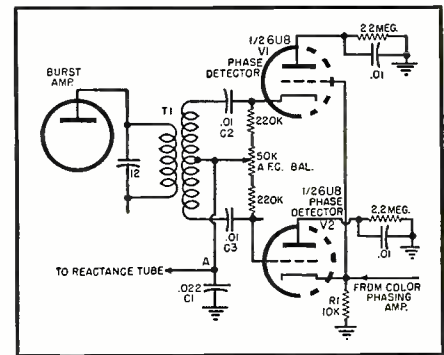

Fig. 3. Phase detector circuit of the color sync section of the set of Fig. 4.
Fig. 5. Various voltage vector relationships in the phase detector circuit. (A) The incoming burst voltage applied to  $V_1$  and  $V_2$ . (B) The combination of the burst voltage and color phasing voltage. (C) When the phasing voltage,  $E_o$ , lags (left) its normal phase, or when it leads it (right), the voltages across the phase detector tubes in Fig. 3 are unequal.